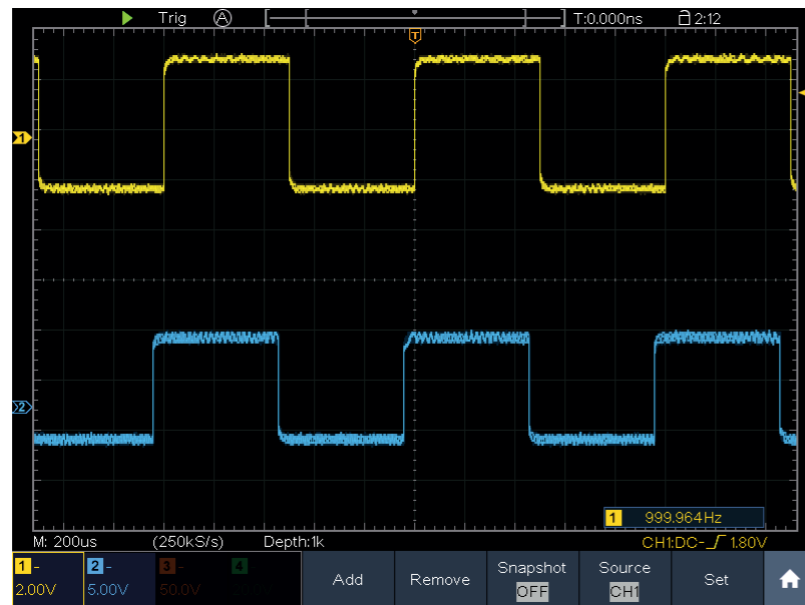

Figure 9-2 Waveform of Gain Measurement
- (1) Push the **Autoset** button and the oscilloscope will automatically adjust the waveforms of the two channels into the proper display state.
- (2) Push the **Measure** button to show the Measure menu.
- (3) Select **Add** in the bottom menu.
- (4) In the left Type menu, turn the **M** knob to select **PK-PK**.
- (5) In the right menu, select **CH1** in the **Source** menu item.
- (6) In the right menu, select **Add**. The peak-to-peak type of CH1 is added.
- (7) In the left Type menu, turn the **M** knob to select **PK-PK**.
- (8) In the right menu, select **CH2** in the **Source** menu item.
- (9) In the right menu, select **Add**. The peak-to-peak type of CH2 is added.
- (10) Read the peak-to-peak voltages of Channel 1 and Channel 2 from the bottom left of the screen (see *Figure 9-2*).
- (11) Calculate the amplifier gain with the following formulas.